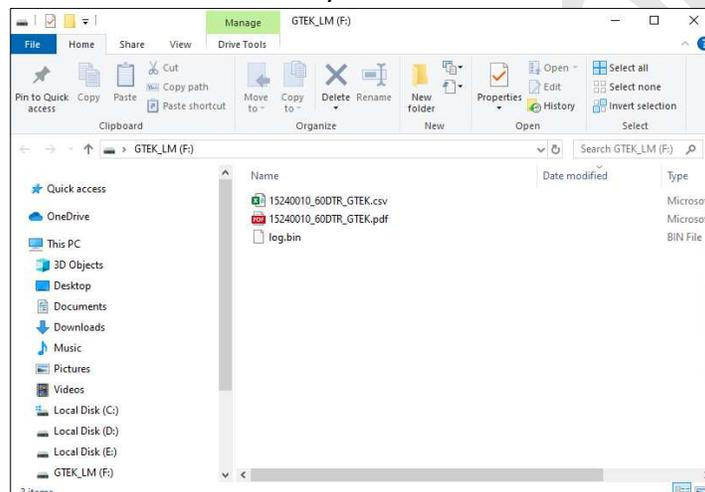

Figure 22 Detected as USB Mass Storage drive
- Once the data logger is connected with the PC, USB Mass storage drive window will pop up as shown in figure 22, showing PDF/CSV report and Log data bin file within approx. 30 seconds.